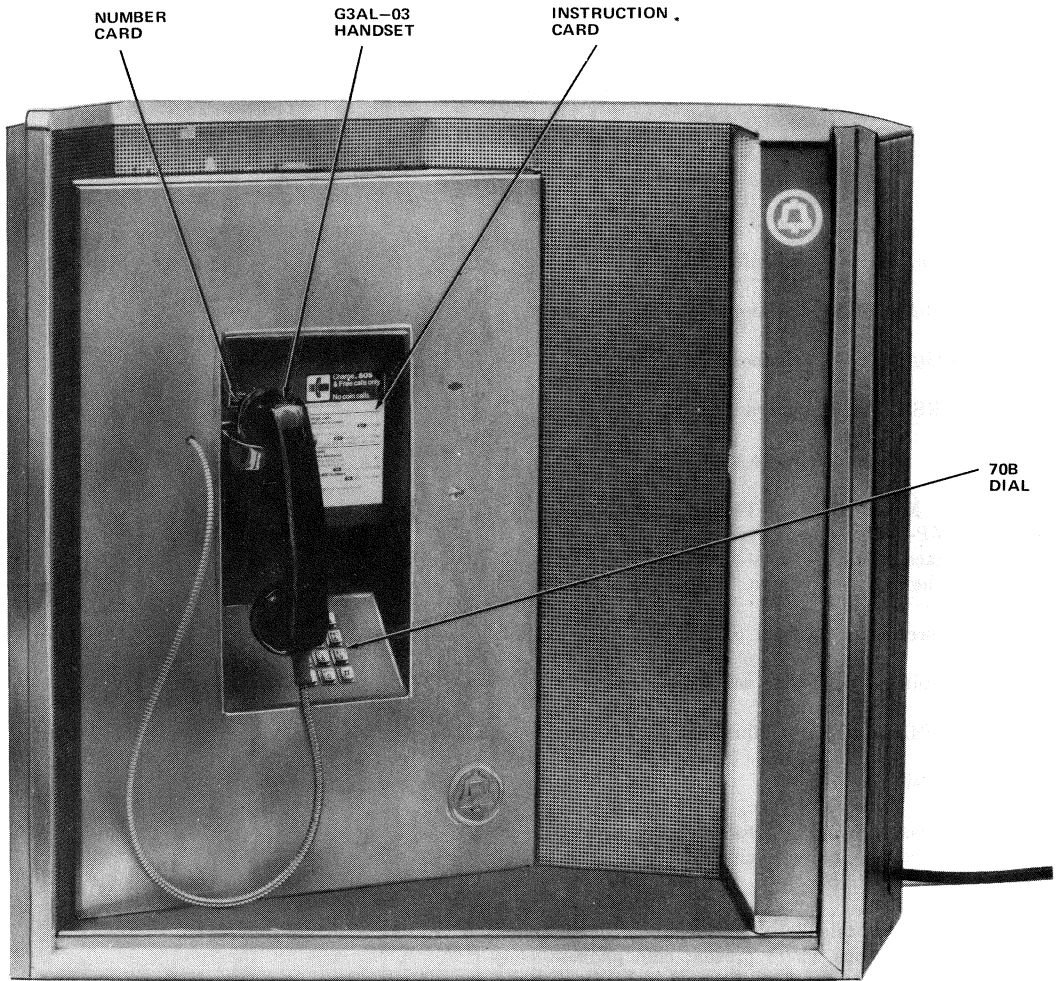

Fig. 2—20A Coinless Telephone Set
- (b) The 20A coinless telephone set (Fig. 2)
**B. 20A Coinless Telephone Set (Fig. 2 and 5)**
**2.15** The instruction card (Fig. 2 and 7) must be fabricated and procured locally.